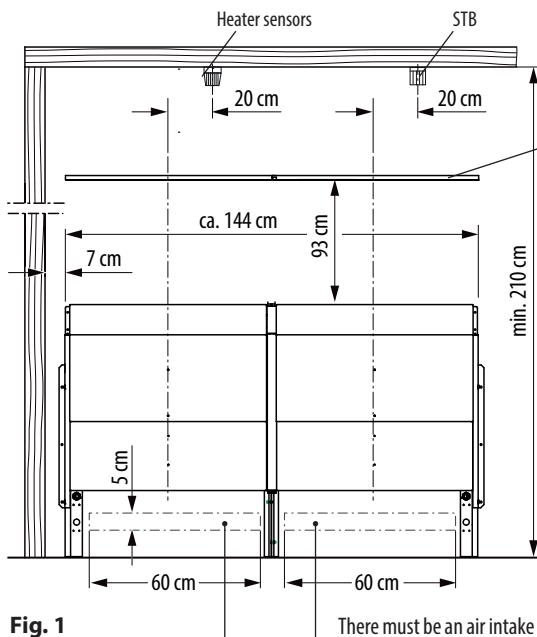

Fig. 1
Minimum size air inlet and outlet	2x 60 x 5 cm (Fig. 1)
The sauna cabin interior must be at least 2.10 m high (Fig. 1).
The clearance as defined in Fig. 1 + 2 between the front wooden wall and/or bench or other flammable materials and the heater must be observed.
The supplied protective grille must be mounted above the heater to the upper edge of the partition wall to the back wall of the sauna (Fig. 1+2).
Also, a safety temperature limiter (STB) must be mounted as shown in Fig 1 + 2.
Now position the entire sauna heater to fit into the air intake openings (Fig. 1) on the designated mounting wall. Now use the supplied chipboard screws (4) to secure the heater to the two side parts left and right and to the securing bracket top centre.
Once the sauna heater is attached to the assembly wall and the pouring grooves are mounted, you can mount the shaft wall to the inside of the cabin. Always observe the minimum safety gaps stated in Fig. 1 + 2.
Ensure that the protective grille is installed correctly above the sauna heater as shown in Fig. 1+2. Observe the safety gaps. **Risk of fire!**